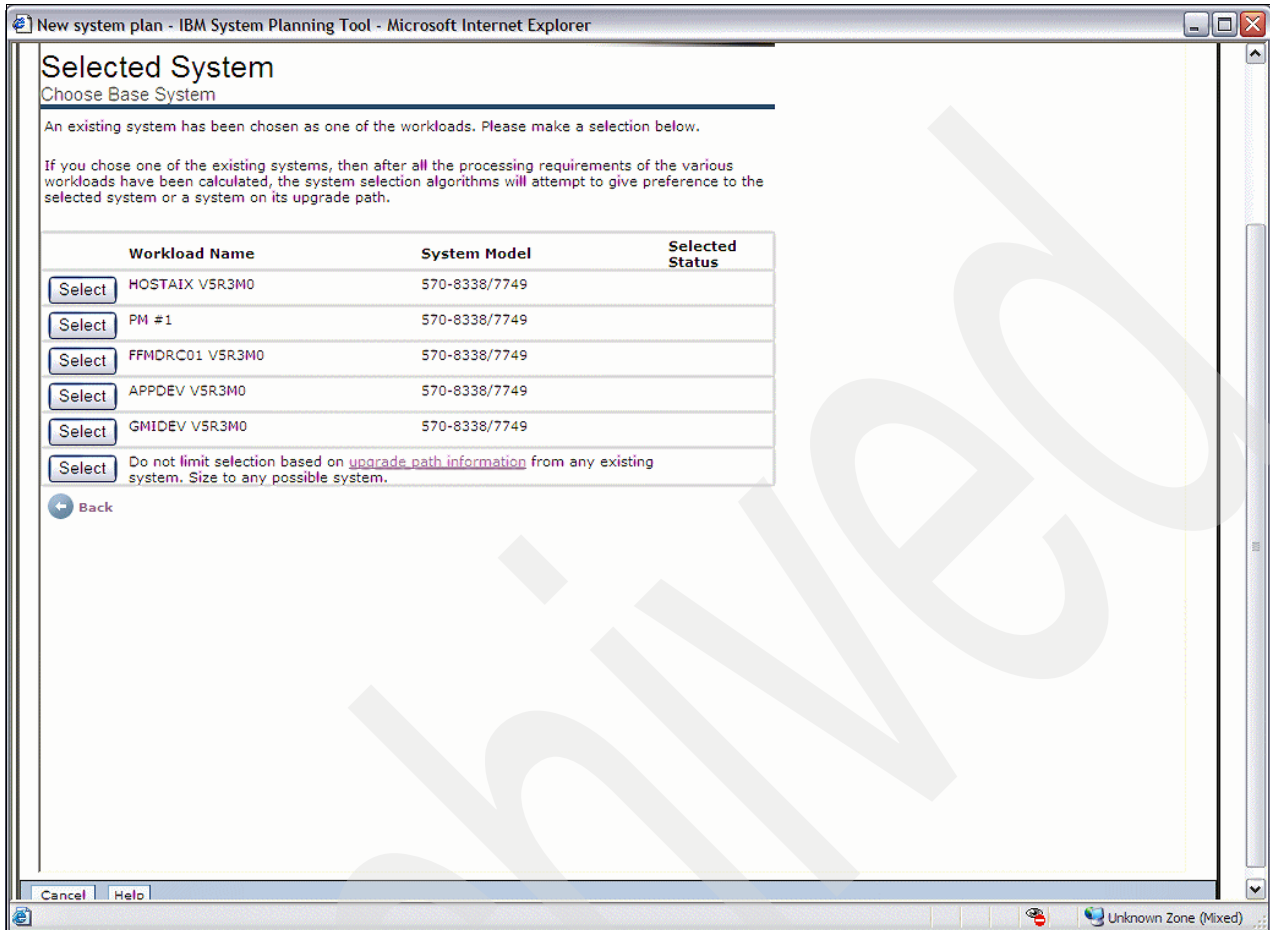

Figure 5-11 Select system for upgrade
8. You can select the upgrade path for WLE to find the best fit for the upgrade. Figure 5-11 shows the selection options.